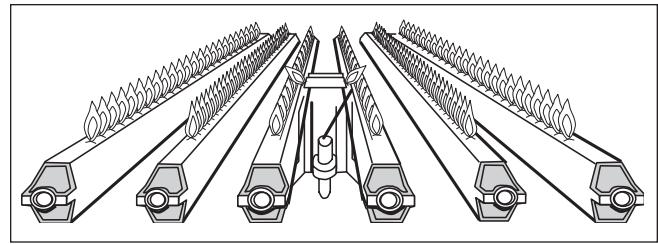

Figure 18. Main Burner Flame Pattern.
2. If a strainer is employed in a pressure reducing valve or in piping, clean it every six (6) months.
3. At start-up and every six (6) months thereafter, the pilot and main burner flame should be observed for proper performance (see Figure 18). See attached lighting and shut-down instructions for proper pilot flame pattern). If flame has the appearance of "sooting" tips, check for debris near orifices. Call serviceman.